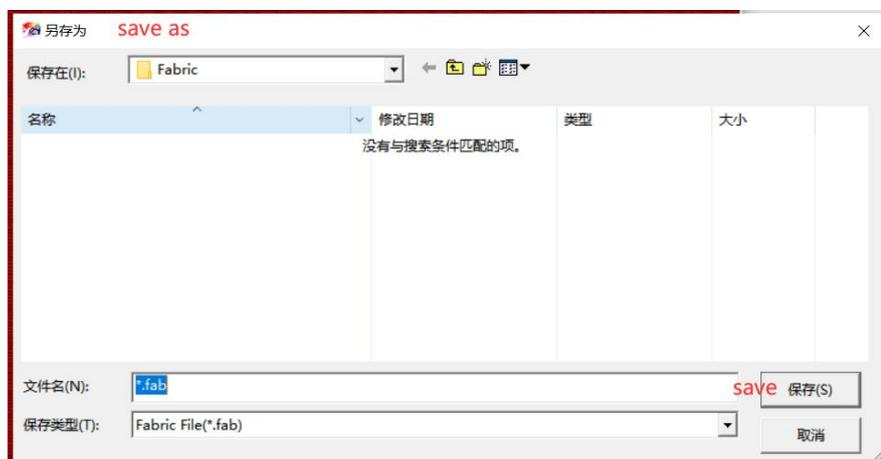

Figure 5-50 Save Fabric File Dialog Box
■  Save fabric: Click the Save Fabric command, a save dialog box will pop up (Figure 5-50), and the fabric design window will appear. The designed fabrics are saved in the folder.